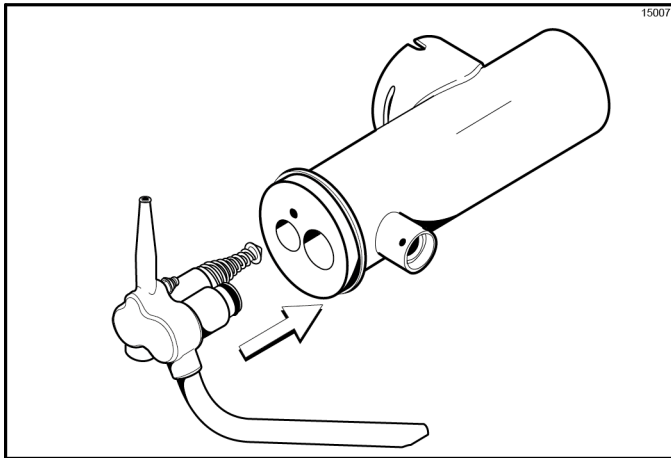

Figure 6-25
- Insert the assembled mix inlet tube into the holes in the base of the liquid valve body. (See Figure 6-25.)